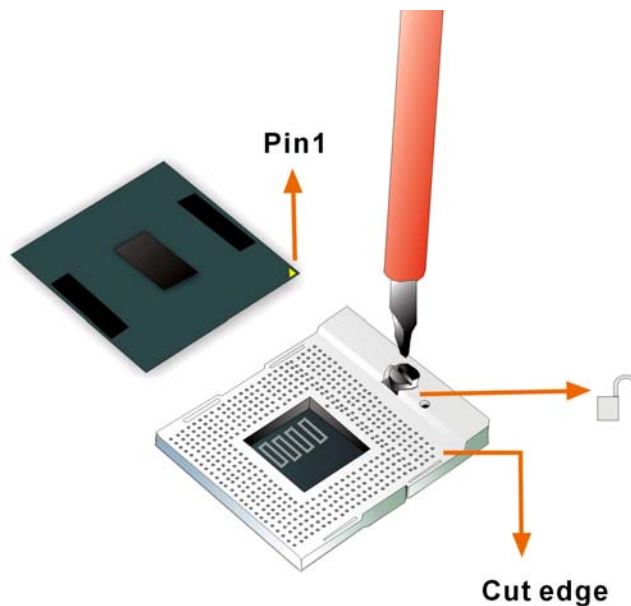

Figure 4-1: Make sure the CPU socket retention screw is unlocked
- Step 1:** **Unlock the CPU retention screw.** When shipped, the retention screw of the CPU socket should be in the unlocked position. If it is not in the unlocked position, use a screwdriver to reposition the screw in an unlocked position. (See **Figure 4-1**)